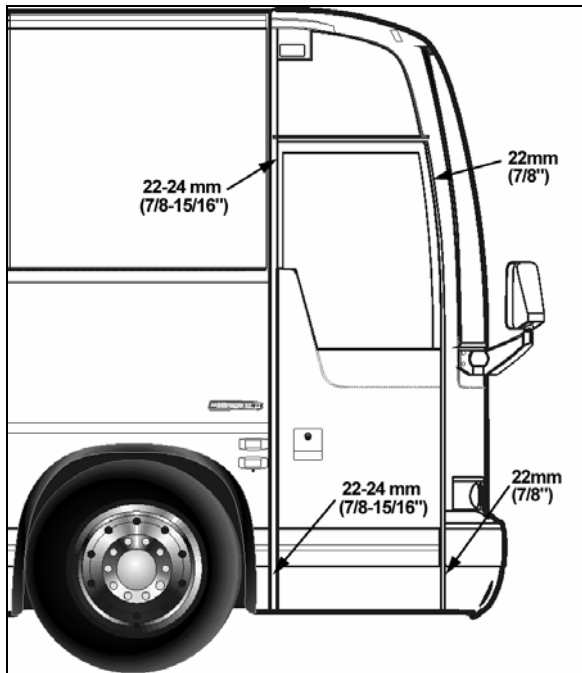

FIGURE 22: SEAL COMPRESSION ADJUSTMENT
- From the outside of vehicle, insert a straight edge in the gap along the door outside perimeter. Measure the distance between the door frame and the door outside surface at the door four corners (refer to figure 22).
1. Close the door, from the outside of vehicle, insert a straight edge in the gap along the door outside perimeter. Measure the distance between the door frame and the door outside surface at the door four corners (refer to figure 22).